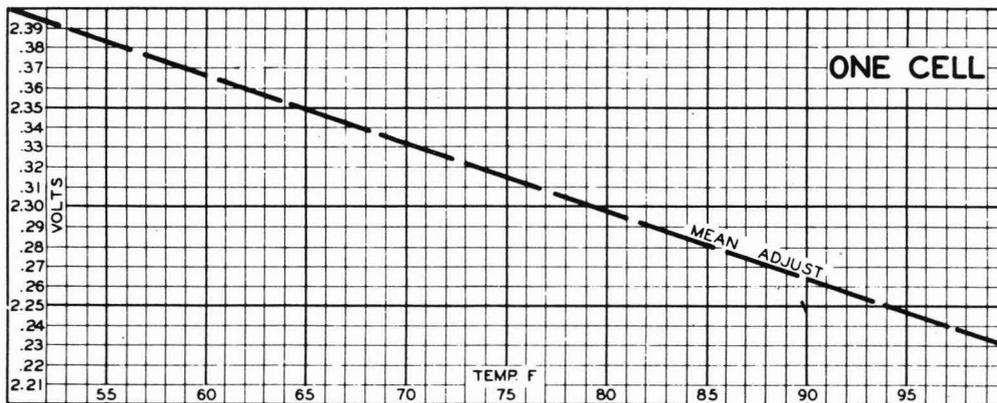

Fig. 6—253A and 253B Relays in Series with Rheostat—Operate Limits per Cell Basis for Charge Rates of 10 to 35 Per Cent of 8-Hour Discharge Rate of Battery.
2.03 **The 253A and 253B relays for batteries with rheostats** in the relay coil circuit to reduce the charge, shall meet the operate values shown on a per cell basis in Fig. 6 unless otherwise specified on the circuit requirements table.
- (1) Set up the connections, warm the relay to stabilize the voltage, and determine the temperature as outlined in 3.01.
- (2) Check the operate voltage of the relay and readjust the rheostat as required to give the proper operate voltage for the temperature of the relay as shown on a per cell basis in Fig. 6.
- (3) If the specified voltage cannot be obtained by adjustment of the rheostat, check the circuit connections and mechanical requirements and make any necessary adjustments.